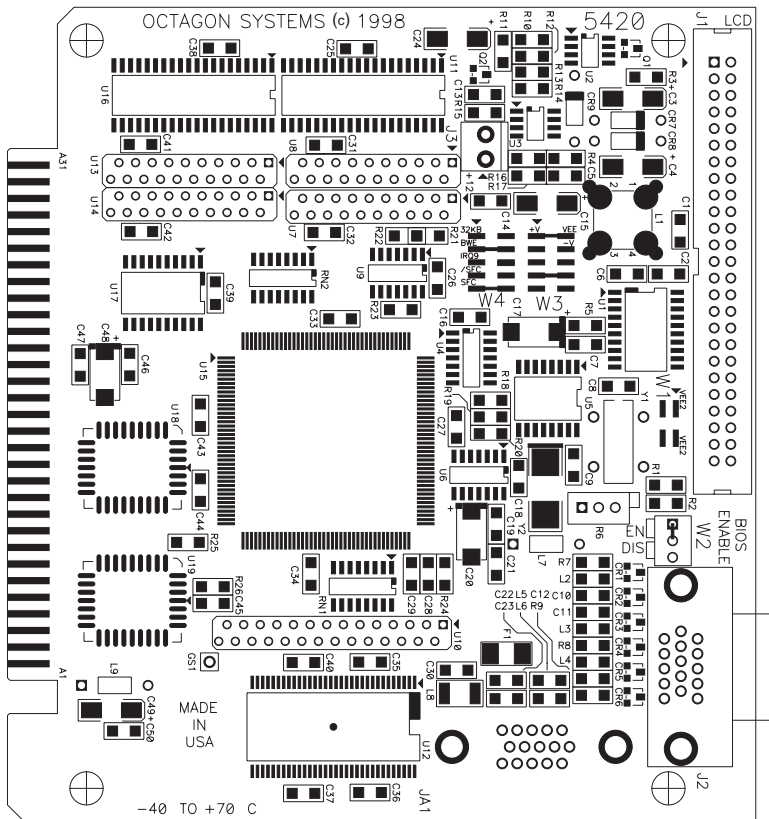

Figure 1—5420 Component Diagram
1. Please refer to Figure 1 for the location of various connectors and option jumpers before installing the 5420.